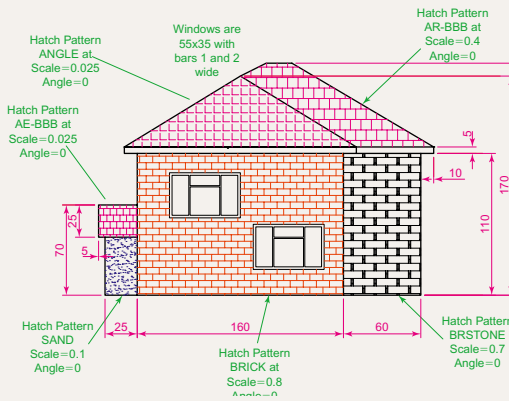

Fig. 8.24 Exercise 5
5. Working to the notes given with the drawing Fig. 8.24, construct the end view of a house as shown. Use your own discretion about sizes for the parts of the drawing.